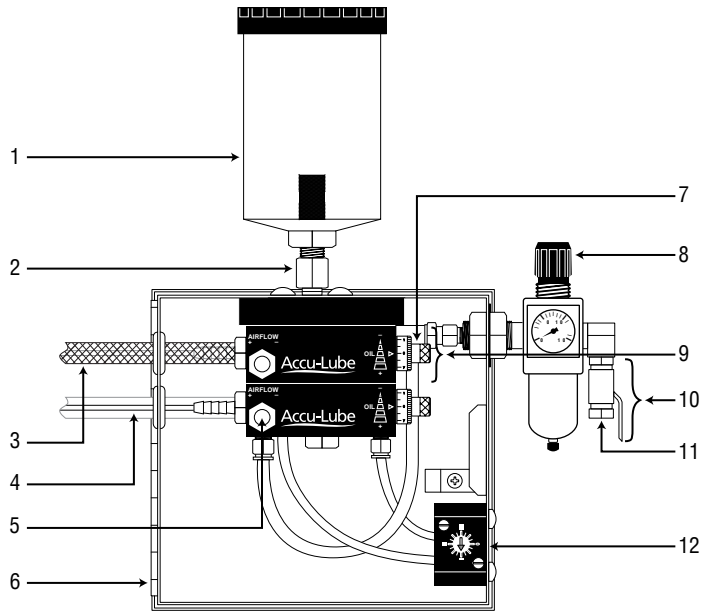

Figure 1. Two Nozzle Aluminum Pump Applicator with Manual Control
1. Remove the plastic shipping plug from the reservoir extension (Fig. 1 #2) on the top of the applicator and clean any debris from the threads and opening.
2. Wrap the threads on the bottom of the reservoir (Fig. 1 #1) with Teflon tape (not included) and attach to the reservoir extension with a  $\frac{3}{4}$ " wrench.
3. Fill the reservoir (Fig. 1 #1) with lubricant. Refer to warranty information on page 13.
5. Make sure the applicator is off, then the attach air supply to the air inlet (Fig. 1 #11).
3. Adjust the airflow valve (Fig. 1 #5) on each pump, turn counterclockwise to increase air flow and clockwise to decrease the flow. The airflow should be just high enough to move the lubricant to the cutting edge.
4. Set the frequency generator (Fig. 1 #12), see instructions on page 10.
5. Set the lubricant control (Fig. 1 #7), see instructions on pages 8-9.